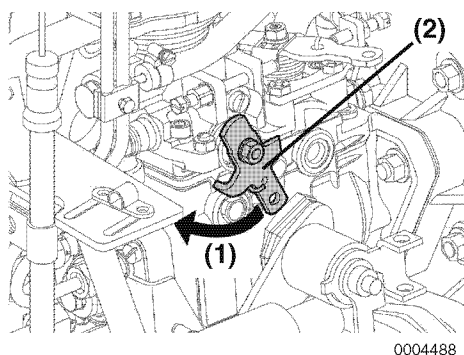

Figure 6
If the engine cannot be shut down by the stop switch on the panel, stop the engine by moving the stop lever **(Figure 6, (2))** by hand to the left **(Figure 6, (1))**. The lever is attached to the fuel injection pump.